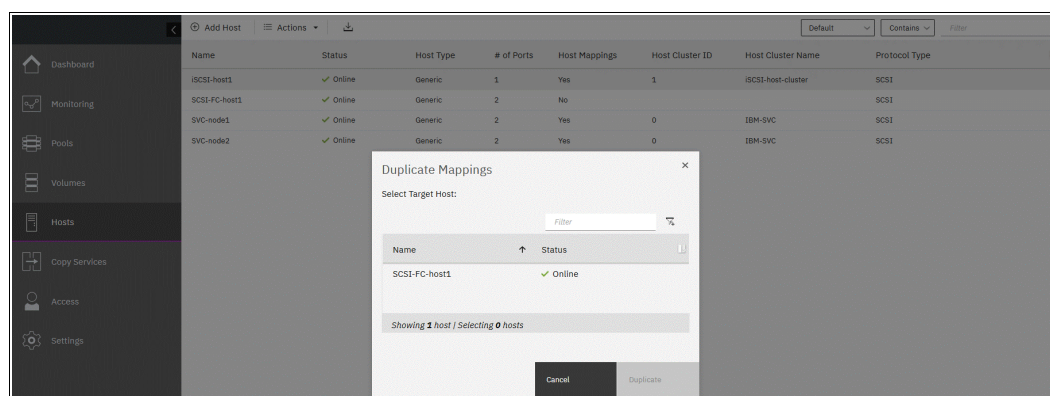

Figure 7-47 Duplicate Mappings window
2. After the Duplicate Mappings window opens, select a target host to which all of the source host volumes are to be mapped (see Figure 7-47). In this example, the only target candidate is a host that has no mappings.